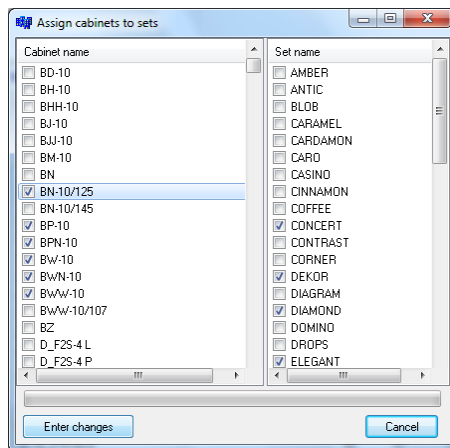

Fig. 168 – assigning cabinet to sets
- **Quick assignments** - it assigns the selected cabinets to the indicated sets (Fig. 168); after entering assignments press the **Enter changes** button in order to confirm modifications,